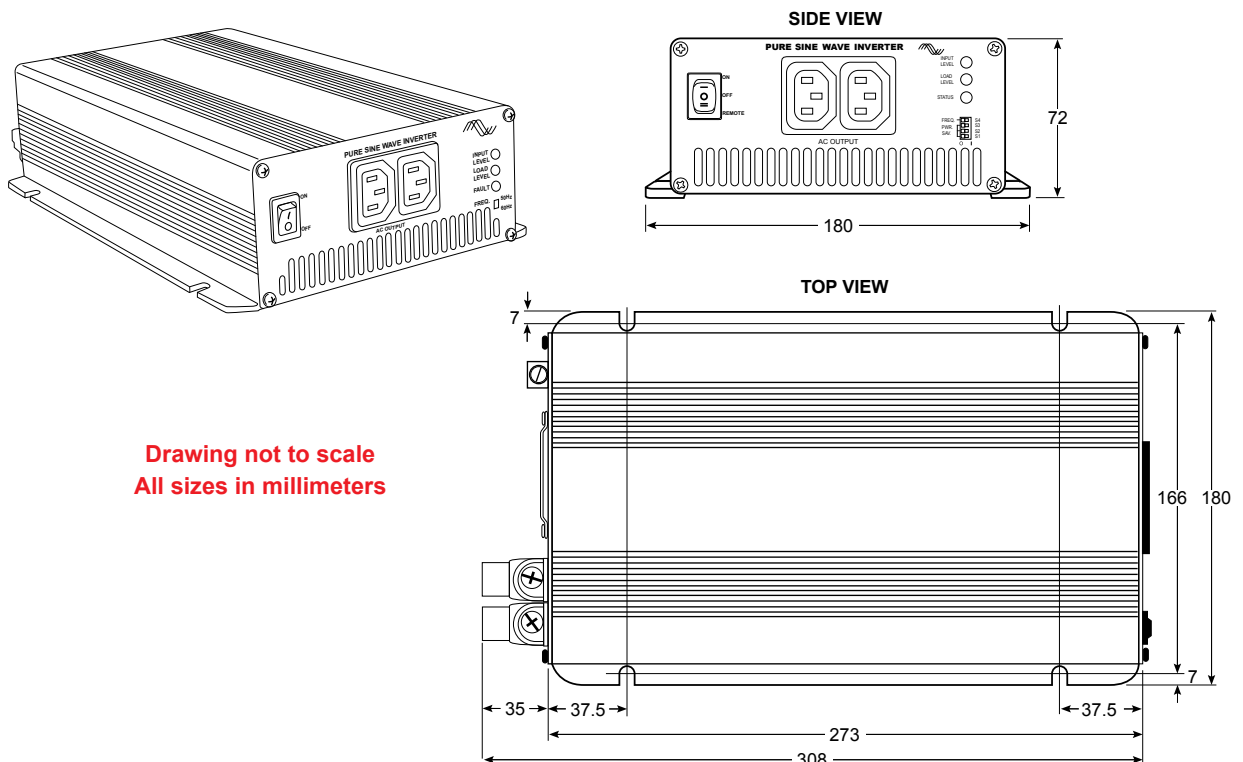

Figure 11 – Inverter Mounting Bracket Outline and Dimensions
STEP 1 Place the bottom gasket over the gland pipe and apply marine sealant to both sides of the gasket. See Figure 11.